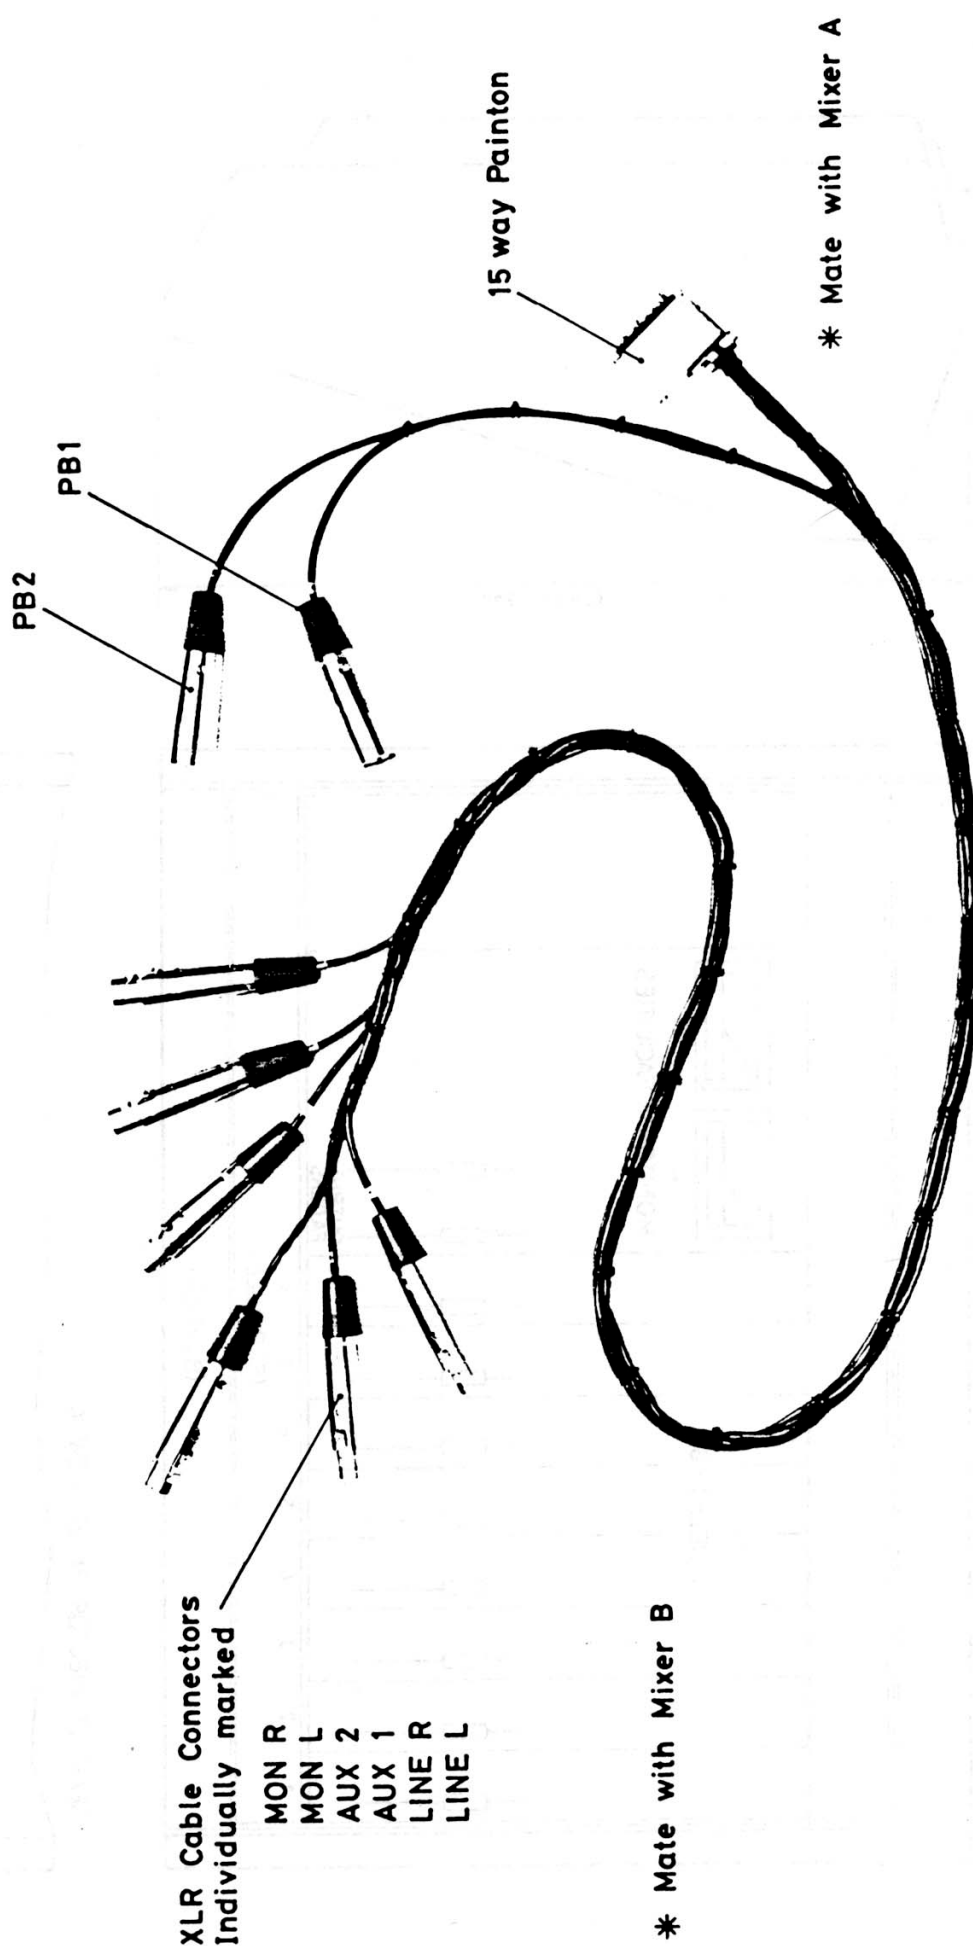

FIG. 7 EXTENSION LF ^ D PT. NO. PN6005"
- (a) Extension Lead PN60051 is shown on Fig. 7 where the cable assembly is formed to allow interconnection of two consoles. Cable ends are individually identified to correspond to the mating connector on the console connector panel.